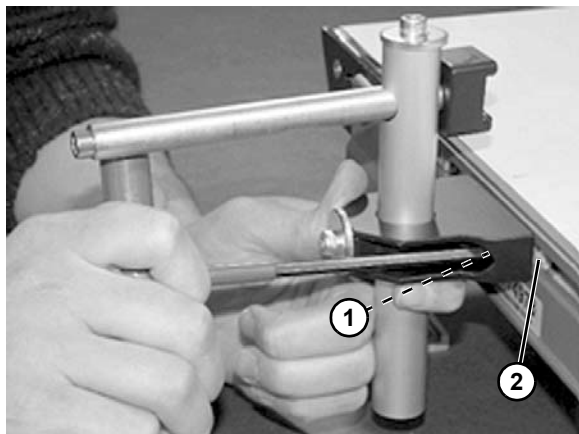

Figure 77
2. Tighten screws (**Figure 77, item 1**) making sure T-nut (**Figure 77, item 2**) rotates and engages inside of the T-slot.